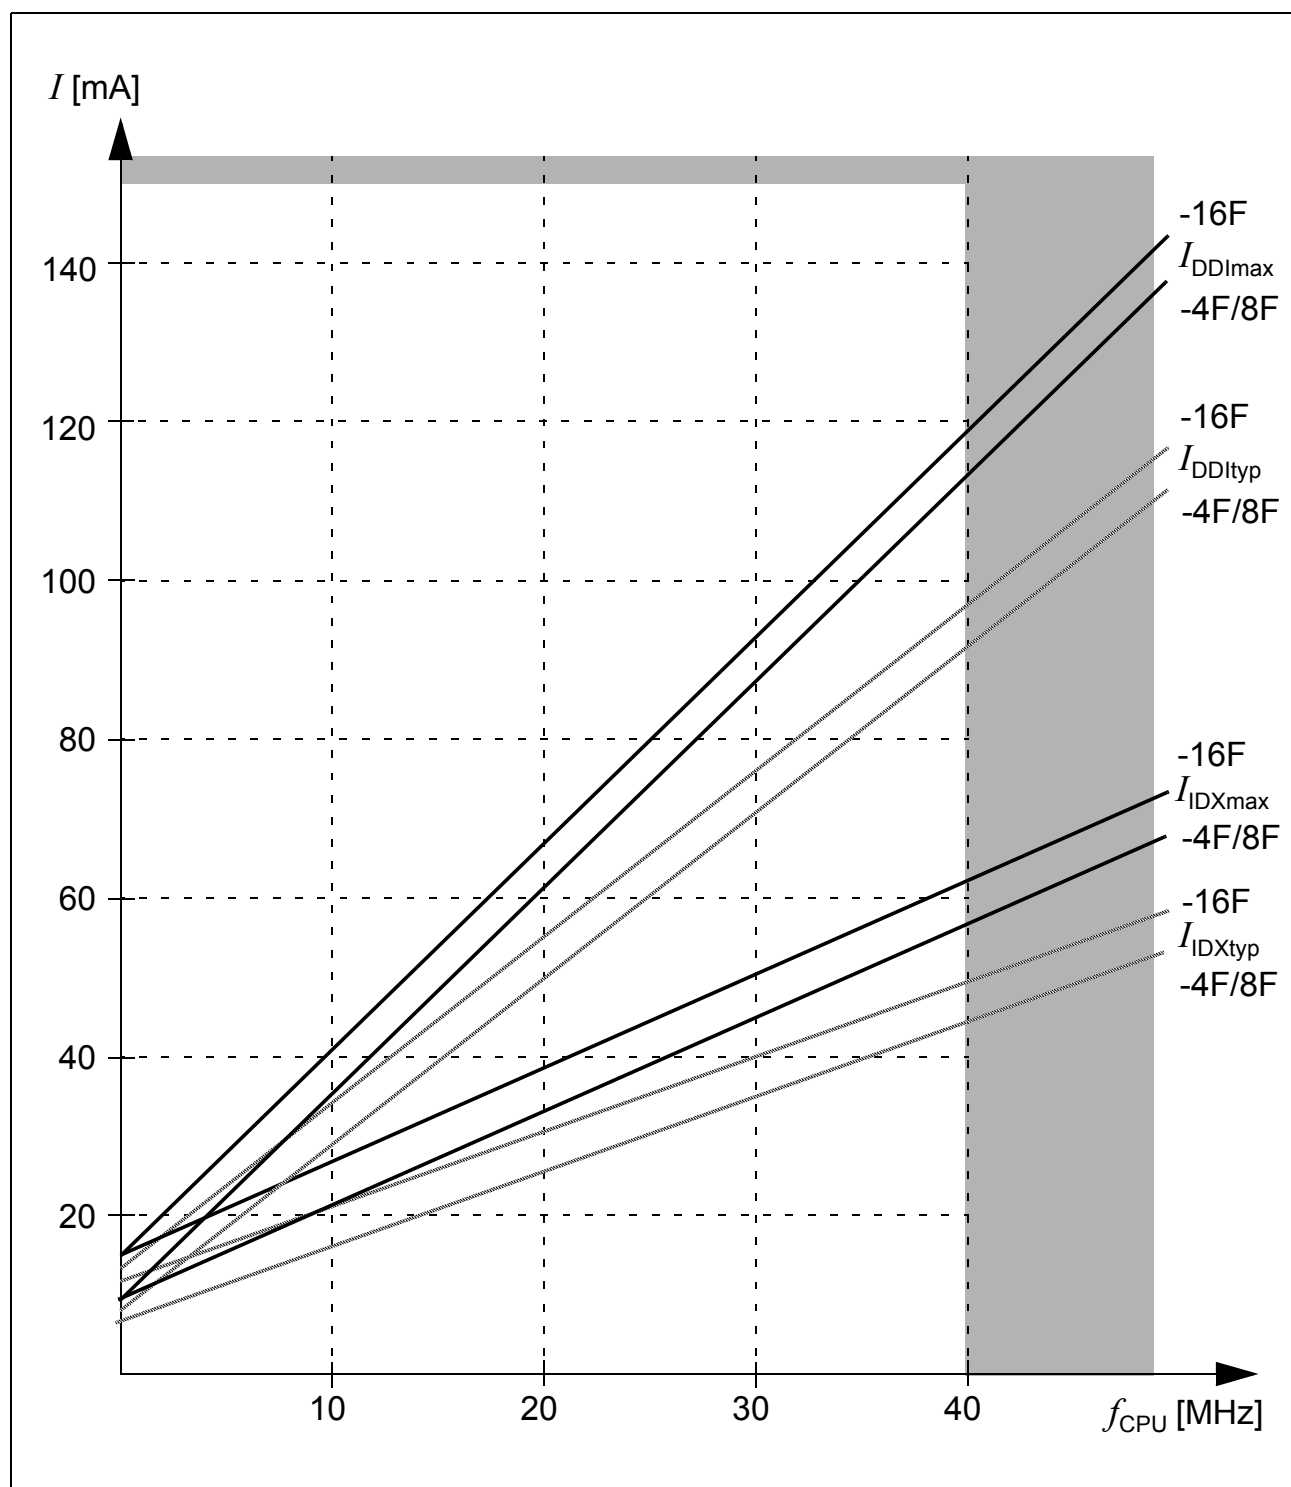

Figure 9 Supply/Idle Current as a Function of Operating Frequency
- 2) The supply current is a function of the operating frequency. This dependency is illustrated in Figure 9. These parameters are tested at $V_{DDI_{max}}$ and maximum CPU clock frequency with all outputs disconnected and all inputs at V_{IL} or V_{IH} .